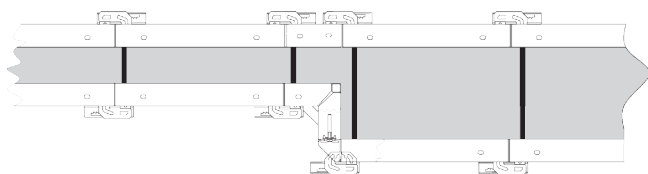

Fig. 2.11
c) Thickness change by  $G = 30 \text{ or } 15 \text{ cm}$  (Fig. 2.11 and 11a).